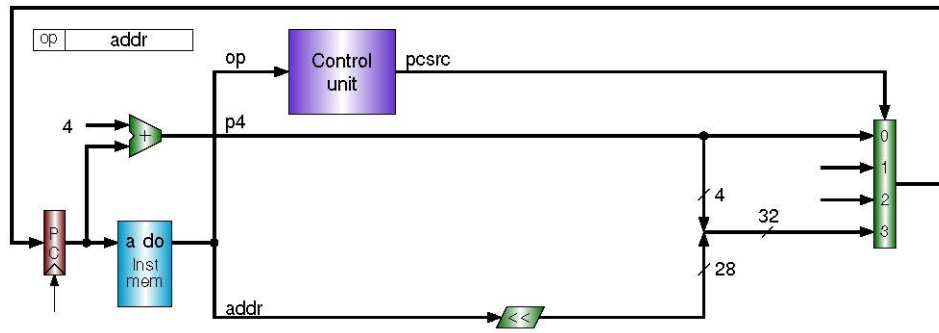
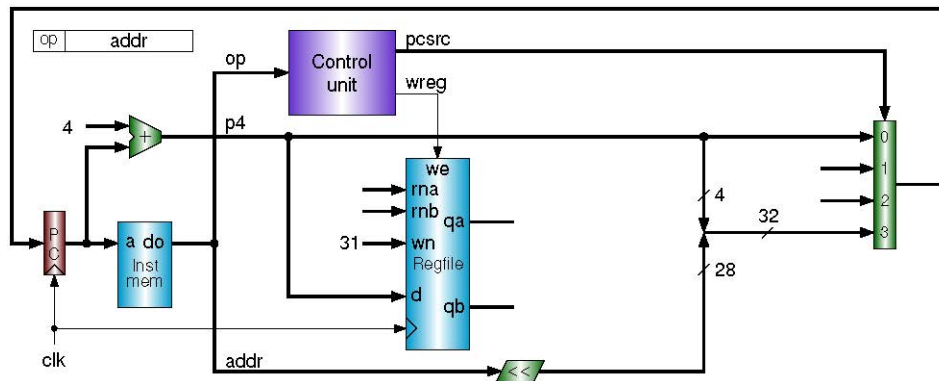
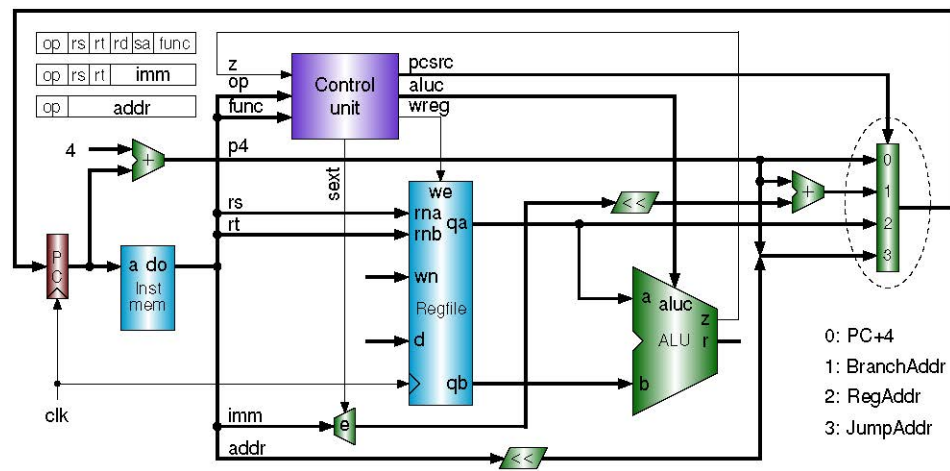

Figure 1 Block diagram for J-format using a multiplexer for ALU A-input selection
Figure 2 Block diagram for J-format jump and link instruction
Figure 4 Using multiplexer for the next PC selection
Figure 1 shows the design required for executing the jump instructions. This instruction uses neither the ALU nor the register file. The jump target address is obtained by concatenation of the high 4 bits of PC+4 and 2-bit left-shifted 'addr.pcsrc' will be 11 to select the jump target address. In addition to what the j instruction does, the jal instruction saves the return address to register \$31 of the register file. The number 31 does not appear in the instruction; we must create it by hardware. We use PC+4 as the return address in our single-cycle CPU design. Figure 2 shows the design required for executing the jal instruction:
The PC will be updated on the rising edge of the clock in the single-cycle CPU. If the current instruction is neither a branch nor a jump, PC+4 will be written to the PC. A 4-to-1 multiplexer can be used to select an address for the next PC as shown in Figure 4. The input 0 of the multiplexer is PC+4; input 1 is the branch target address; input 2 is the jump target address coming from the register rs of the register file; and input 3 is the jump target address coming from addr and PC+4. The 2-bit pcsrc is the selection signal of the multiplexer.
12. Write a Verilog code that implement the following instructions using the design shown in Figure 2, 3, 4. The instruction memory should contain the following instructions. You should show in your simulation the output of the 4-to-1 multiplexer, qa and p4 signals shown in Figure 4. You also need to show the contents of register \$ra at the output.